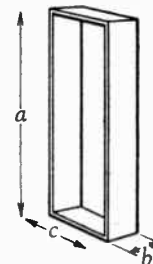

Fig. 4. A short length, a , of parallel transmission line, short-circuited at each end, forms the starting point for considering the action of wave guides.
We start off with a short length of parallel transmission line closed at both ends, and consisting therefore of a rectangular piece of metal (Fig. 4); a is the length and b the width of the two parallel conductors, and c is their spacing. Suppose electrical waves are set moving along this line, by coupling it to some high-frequency generator. The waves are totally reflected at a short-circuited end. They then travel to the other short-circuited end, are reflected there, and presently they reach the starting point, which may be
Fig. 5. When the "line" shown in Fig. 4 is half a wavelength long it resonates, and the maximum current (and magnetic field) is at the ends, with maximum voltage (and electric field) at the centre. At (a) the distribution of fields is shown diagrammatically; (b) shows the current (I) and voltage (E) distribution.